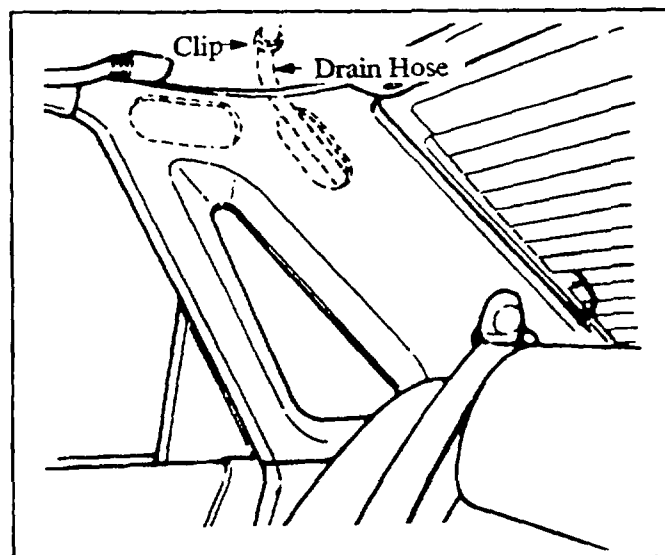

Figure 31: Rear Sunroof Drain Hose
4. If necessary, position the hose so that there are no loops, kinks or pinched areas. Check for kinks at the drain hose clip. Repeat the water test. Make sure that the sunroof drains properly and does not leak. **Figure 31.**
4. Check that the drain hoses are attached to the sunroof drain tubes. Replace hose(s) as necessary. Check for kinks at the drain hose clip. **Figure 31.**